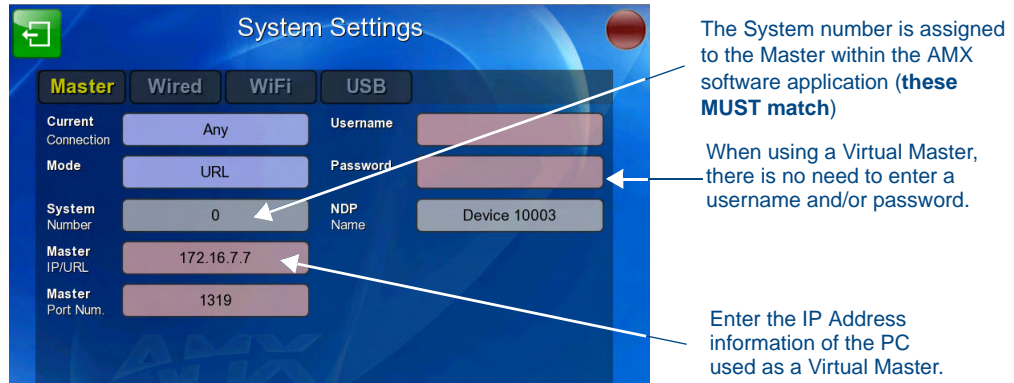

FIG. 40 Sample System Settings page (for Virtual Master communication)
13. Select **Protected Setup > Network** to open the *System Settings* page and *Master* tab (FIG. 40).